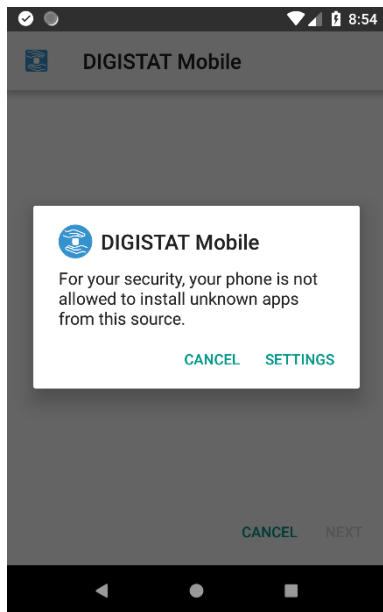

Fig 200
In all other cases and in particular on Android 7+ devices, the Digistat Mobile application firstly checks if the user has authorized it to install applications from unknown sources (Fig 200):
- Press the button **“SETTINGS”** in Fig 200 to authorize the installation of the update, or press the button **“CANCEL”** to stop the updates installation process.